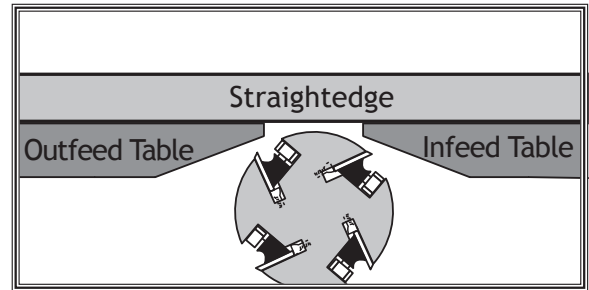

Figure 41. Infeed and outfeed tables set evenly (knife-style cutterhead shown).
3. Rotate cutterhead so knives/inserts will not interfere, then place straightedge on infeed and outfeed tables and adjust infeed table even with outfeed table, as shown in **Figure 41**.